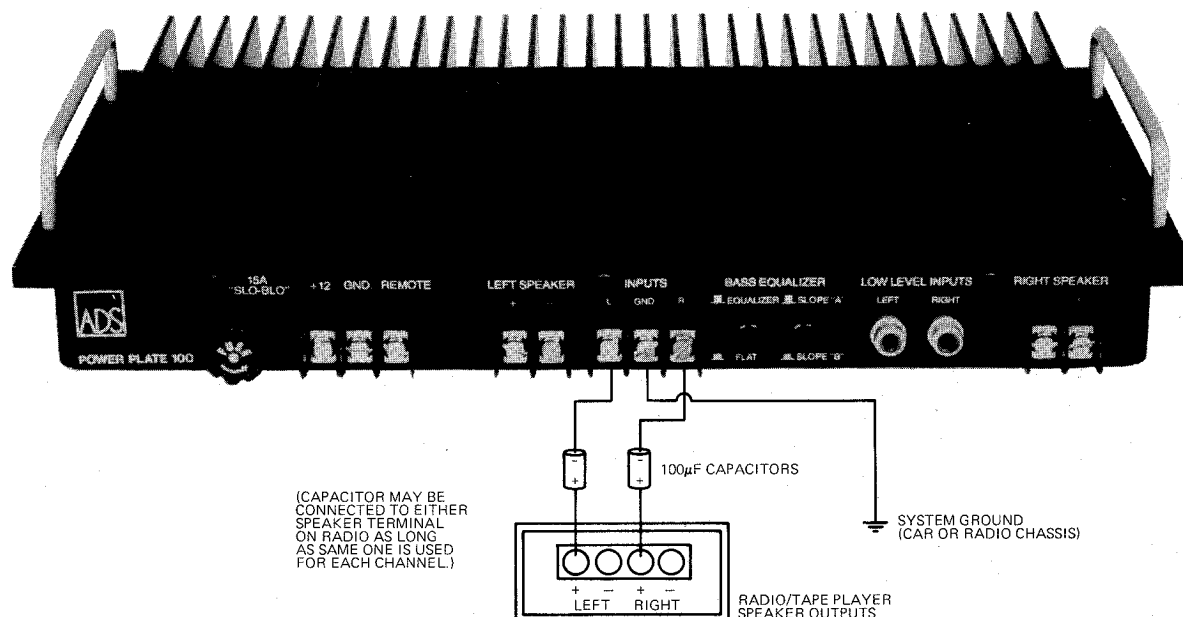

Figure 4. Input Connections for Radios with Bridged Outputs
outputs.\* In bridged configurations, none of the speaker terminals are at true ground potential. If you have determined that your car radio has bridged outputs, you must obtain two 100 $\mu$ F capacitors and insert one in series with each input to the Power Plate. In this case, use only one of the car radio's speaker terminals for each channel (making sure you use the same terminal for both channels), and connect the ground terminal of the Power Plate's High Level Inputs (6) to system ground (radio or car chassis) at the point which results in least noise. The capacitors should be soldered to the connecting cables and carefully insulated with electrical tape to prevent shorting. Figure 4 illustrates the proper connection scheme for car radios with bridged outputs. Note that the positive lead of the capacitor is wired to the radio.